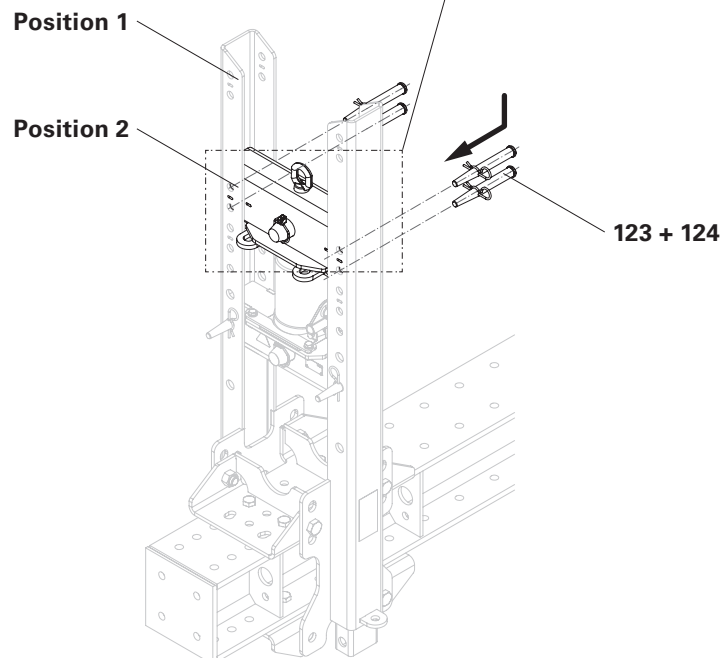

Fig. B5.06
8. Insert filler pin 21x120 (**123**) and secure with Cotter Pin 4/1 ga (**124**). (Fig. B5.06)